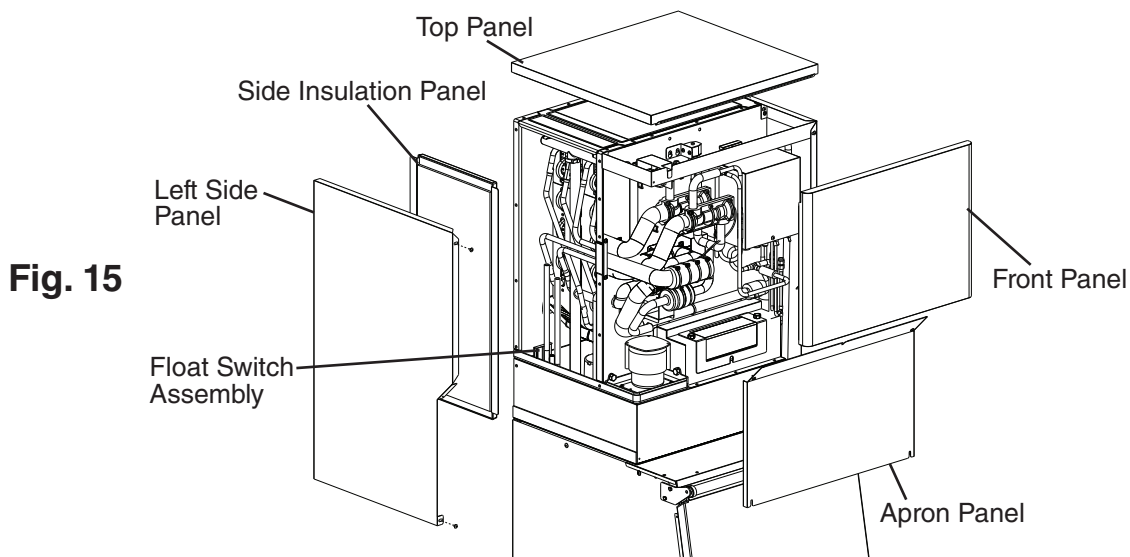

Fig. 15
- 7) Remove the front, apron, top, left side, and side insulation panels. See Fig. 15.